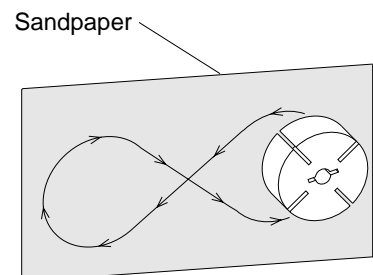

Figure 26 - Sanding Rotor
14. Place fine grade sandpaper (600 grit) on flat surface. Sand rotor lightly in "figure 8" motion four times (see Figure 26).